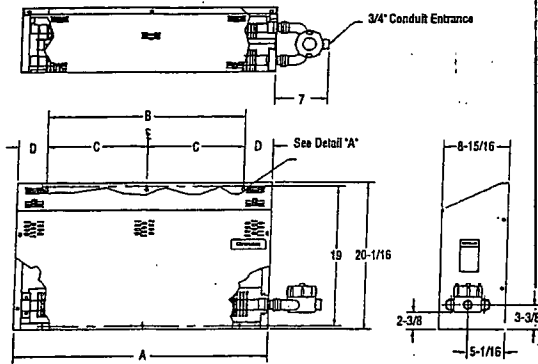

Figure 1A
4. Refer to Figure 1A, 1B, or 1C for mounting hole layout for each cabinet size.